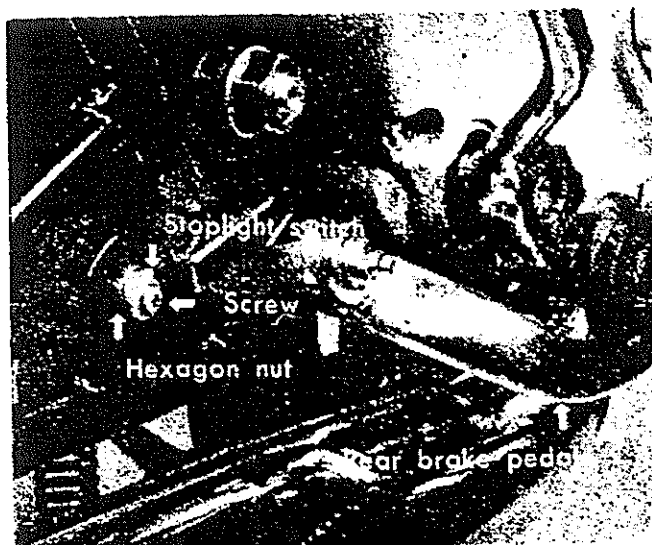

Fig. 28
- (1) When ignition key is in (1) or (2) position, stoplight can be switched on.
- (2) The lighting timing of stoplight is adjusted as follows. (Fig. 28)